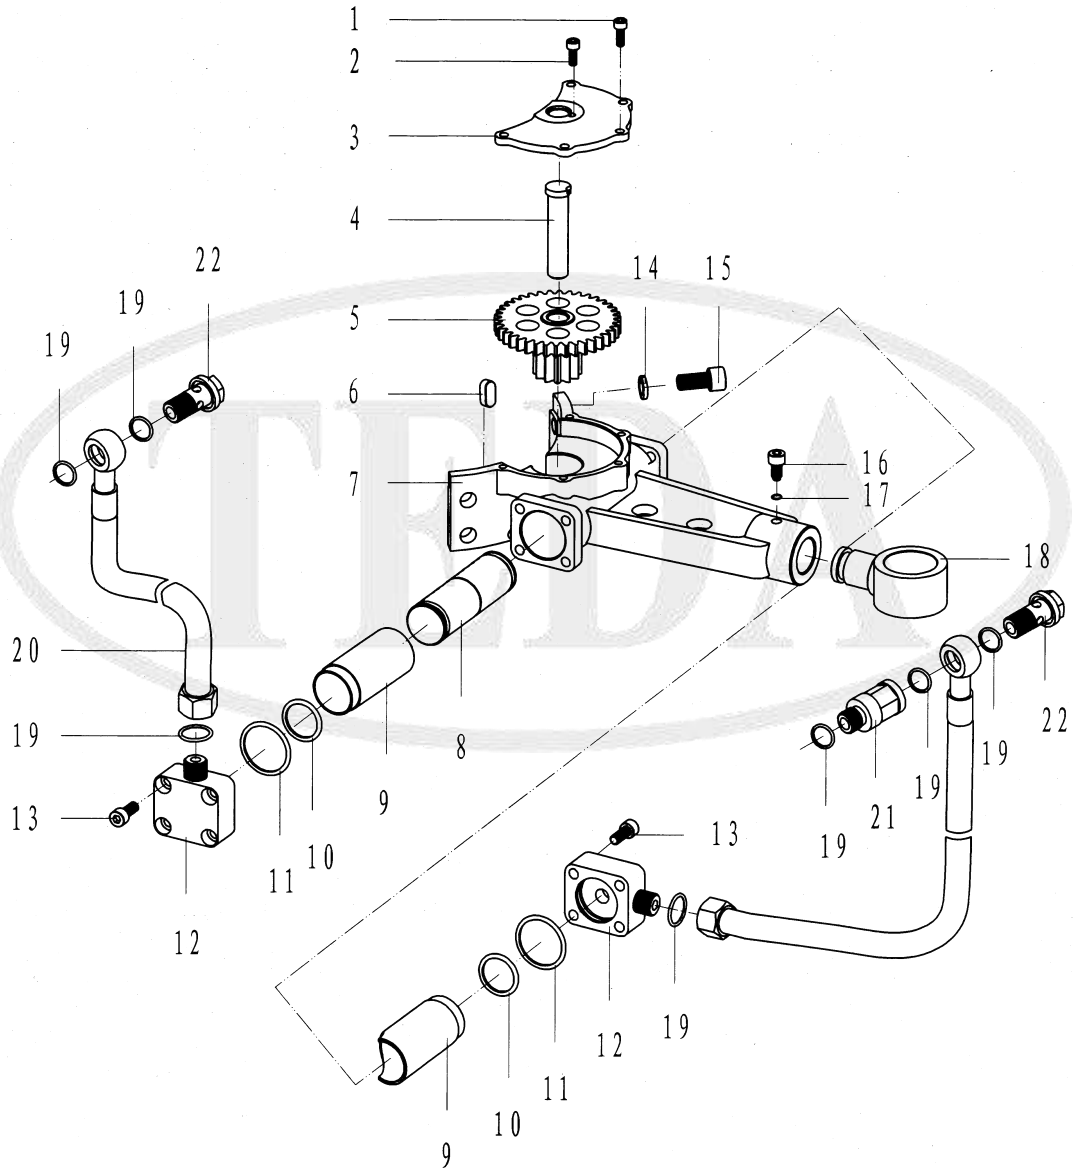

Fig.14 Tong tail oil cylinder assembly
9.12 Tong tail oil cylinder assembly and parts list(Fig.14, Table 12)